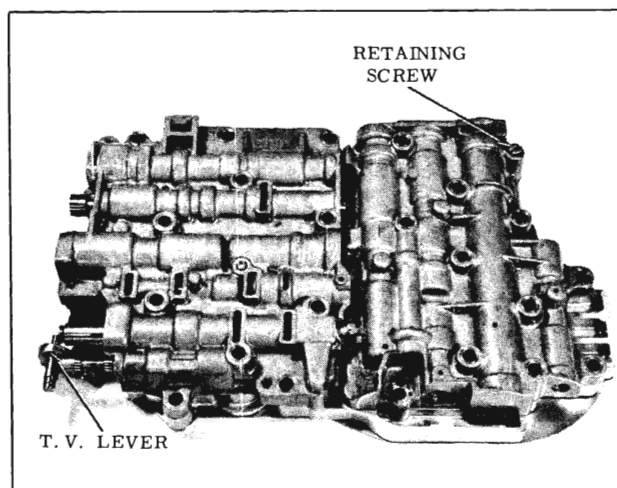

Fig. 3-282 Control Valve Assembly
1. Remove one secondary body to channel plate attaching screw. (Fig. 3-282)